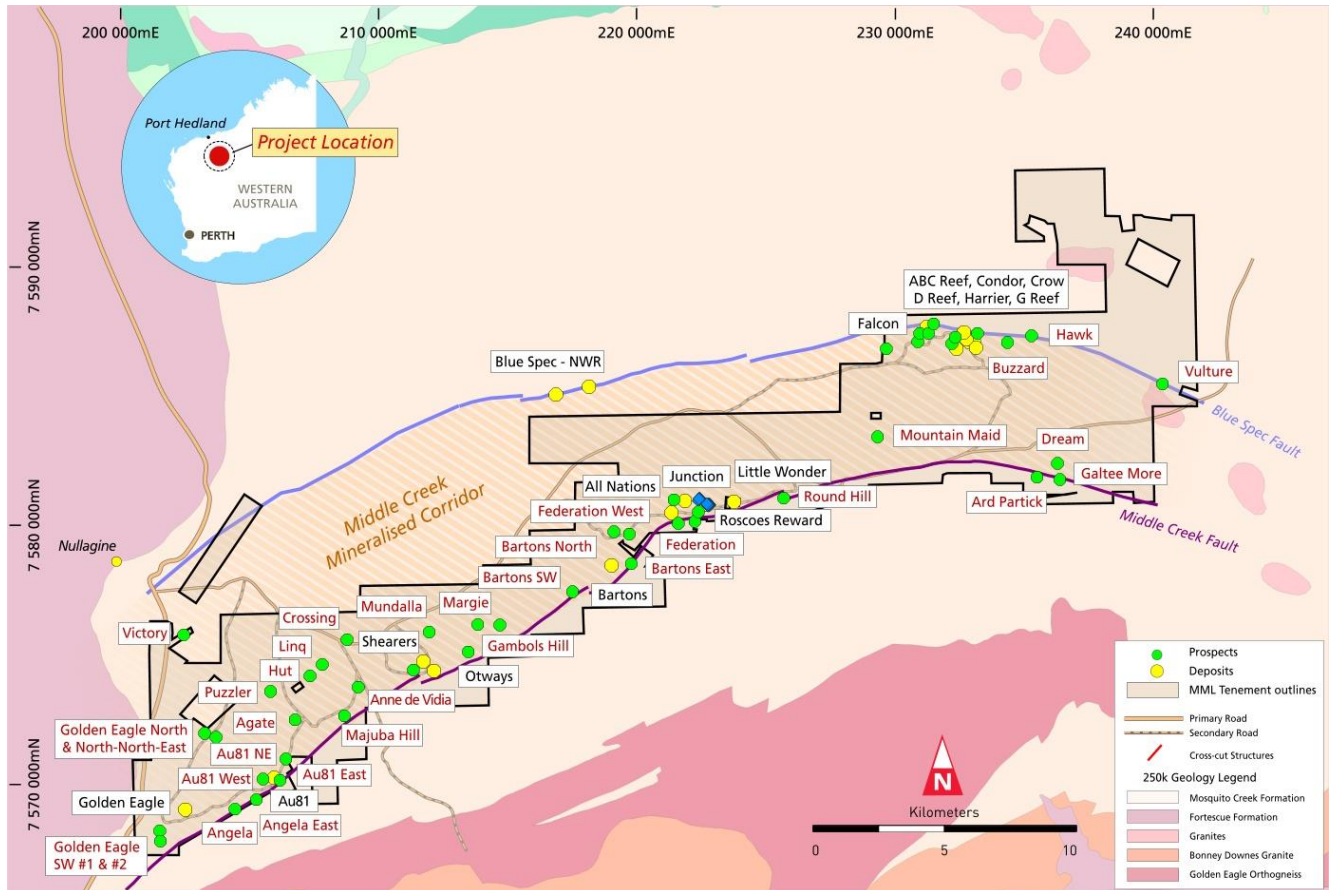

Figure 1: Nullagine Deposit Location Plan over regional geology
**Millennium Minerals Limited (Millennium or Company – ASX: MOY)** is pleased to advise that the imminent Mineral Resource upgrade at its Nullagine Gold Project (**Project**) in WA (**Figure 1**) has received another strong boost with more high-grade drilling results from the recent Anne de Vidia discovery.
The drilling at Anne de Vidia, which is located just 9 km from the Nullagine processing plant (**Figure 1**), is part of Millennium’s strategy to grow the Project’s gold inventory and mine life.